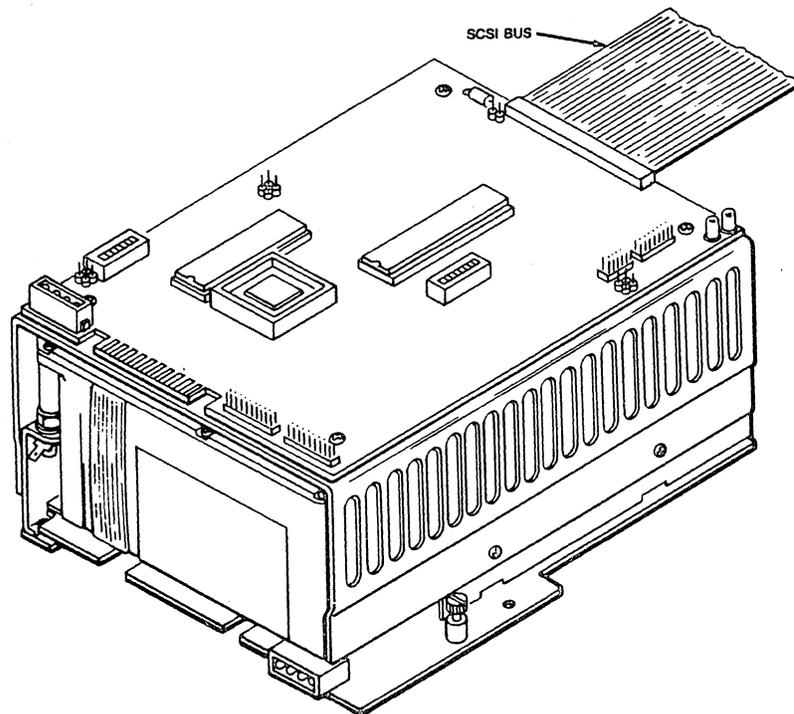

Figure 3-4. Connecting SCSI bus to MD01 Controller
7. Connect SCSI bus cable to SCSI bus connector J2 on MD01 Controller (see Figure 3-4).